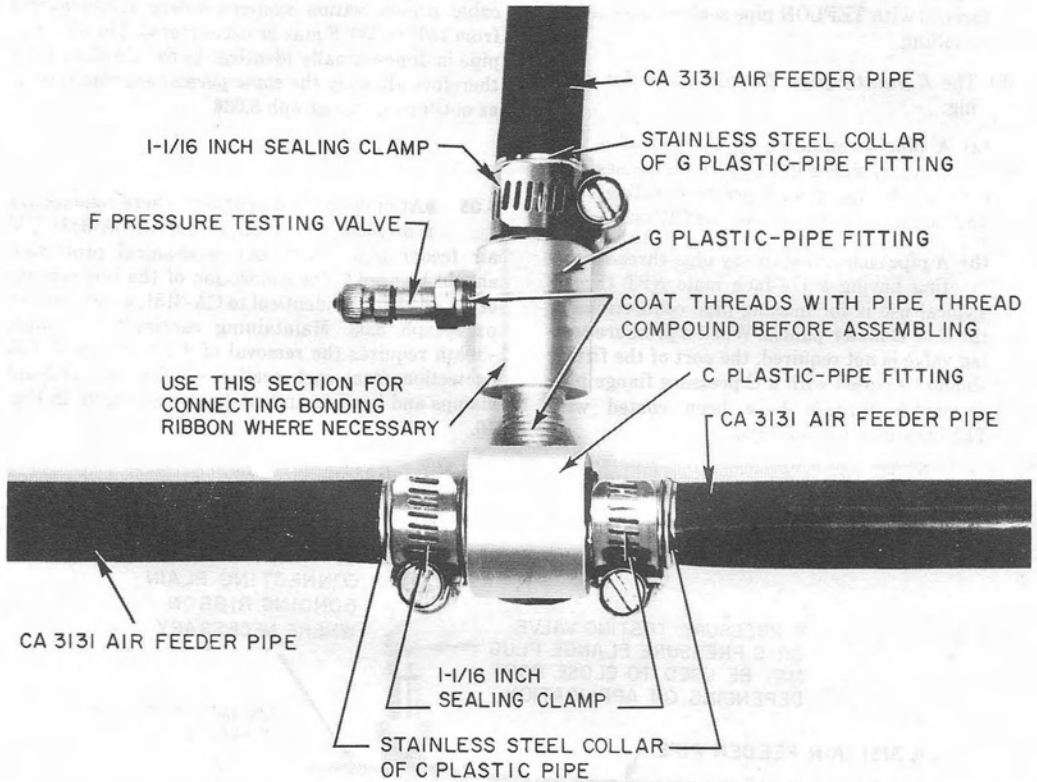

Fig. 7—Typical Arrangement for Pipe and Pressure Testing Valve Connections at Pipe Junction Manhole
(7) **The C plastic pipe fitting** is used for making a 3-way or tee connection in a pipeline (Fig. 7). The port on this fitting has a 1/4-inch pipe thread to permit connection to a G plastic pipe fitting.
(a) To a C plastic pipe fitting for a 3-way or tee connection in a pipeline (Fig. 7). In such cases, also coat the threads of an F pressure testing valve and install it in the port of the fitting.
SEE FIG 7 FOR ARRANGEMENT AT PIPE JUNCTION MANHOLES